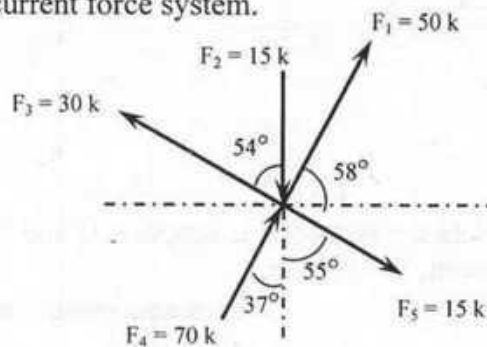

Fig :1
1. In the fig:1 below, calculate the resultant (magnitude and direction) of the following coplanar concurrent force system.